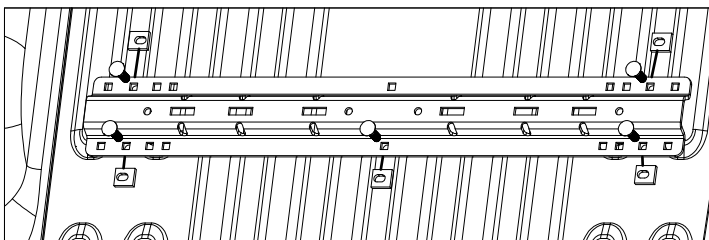
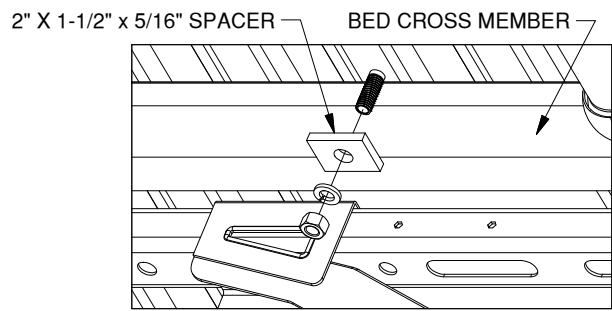

Figure D1: View looking down into the truck bed from rear of truck.
Figure D2: View looking up under the truck bed.
2. **The rear mounting rail (spring suspension).** Re-position the rear mounting rail over the drilled 9/16" holes in the bed. Place a 5/16" thick offset spacer between the bed and the mounting rail at the five drilled positions. Next, place a 1/2" x 2" carriage bolt through the mounting rail and into each of the five drilled locations, see Figure D1. Under the bed attach each of the carriage bolts with a flat washer, lock washer, and nut. The center carriage bolt will need a 2" x 1-1/2" x 5/16" spacer instead of the flat washer, see Figure D2. Hand tighten each nut.